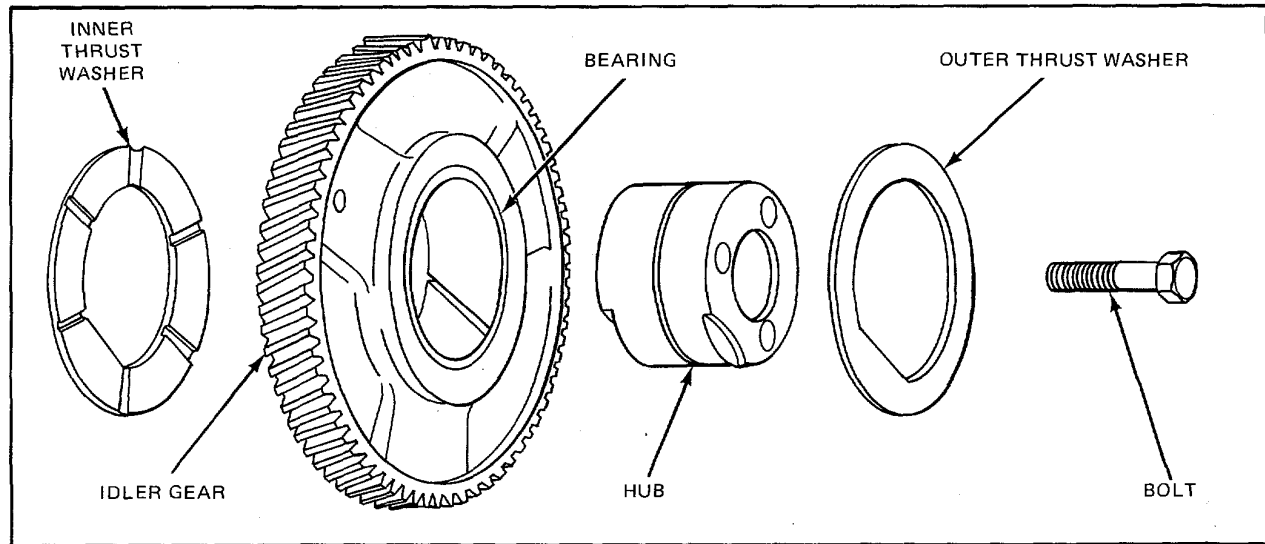

Figure 3. Idler Gear Details and Relative Location of Parts
1. Remove the idler gear outer thrust washer from the idler gear hub (Fig. 3).